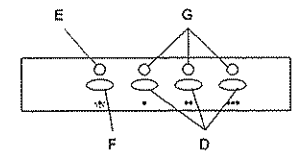

Fig.6
- 3 position switch controls the motor (1st, 2nd, and 3rd speed) (Figure 6, Ref. D).
- Lighting control lamp. Fig. 6. Ref. E.
- Motor control lamps. Fig. 6. Ref. G.
- Light switch (Figure 6, Ref. F).